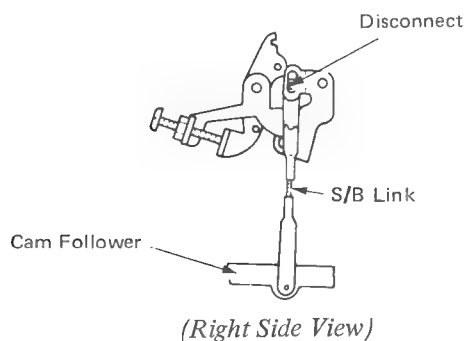

Figure 4
12. Remove all "C" clips (8) from pivot shaft and remove shaft from right.
14. (RB/S) Disconnect spacebar link at top clevis (Figure 4).